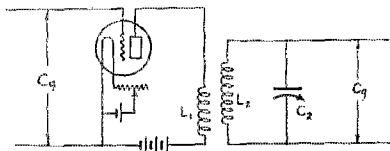
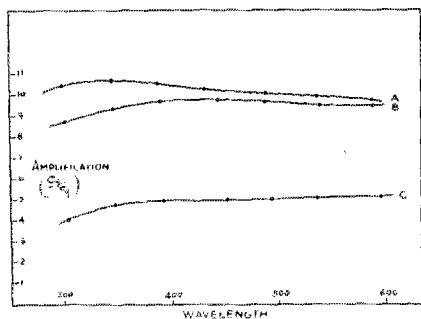

FIG 1
FIG 2
The theory of the circuit predicted certain constants which would give the maximum radio frequency amplification, but when an R.F. transformer constructed in the ordinary manner, i. e. the primary and the secondary consisting of a single layer of coils, one fitting inside the other, was tested, the amplification was found to be extremely low. After some tests, it was found that the capacity between the primary and secondary of the transformer shown in Fig. 1, was the cause of the loss, as this introduced an
e.m.f. in the secondary of the R.F. transformer which was not in phase with the e.m.f. induced by magnetic coupling. A "slot" winding was then adopted with the result that about 90% of the radio frequency amplification predicted was actually obtained. In Fig. 2 curve A shows the theoretical amplification, curve B shows the measured amplification of the system shown in Fig. 1 with slot wound primary, while curve C shows amplification with a transformer wound on two concentric cylinders. In all three curves the same secondary is used while the primary is wound to the same inductance, also the coupling is the same. These curves shown are for the broadcast band of wavelengths, but give a good idea of the efficiency of the two methods of winding.